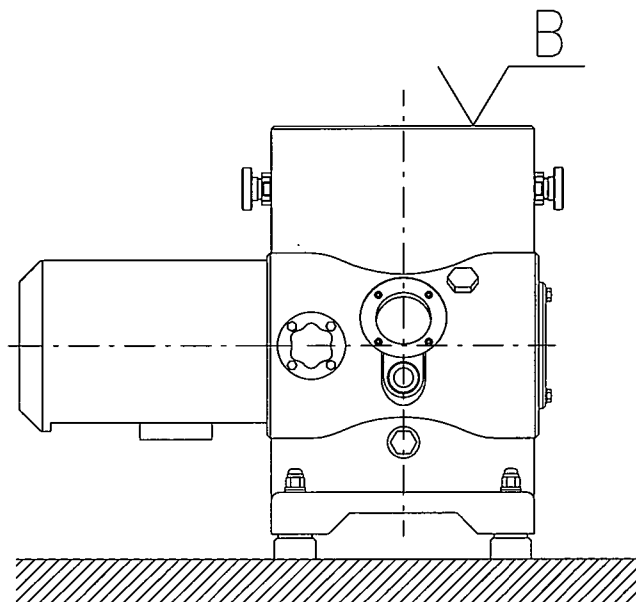

Figure 5.2
The frame plane (B) must be horizontal (fig. 5.2). In order to obtain this, adjust the screwing of cap nuts, which must be screwed without tightening, to have always a good working of the shock absorbers.